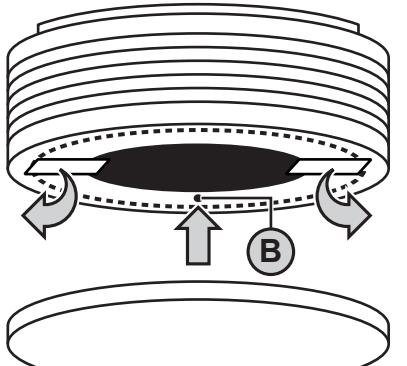

Figure 2
- Press out activation button (B) with an object (e.g. a screwdriver) in direction of the magnetic carrier (fig. 2).